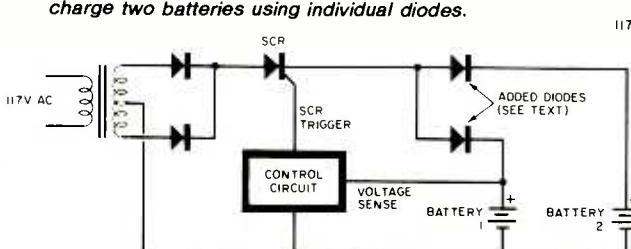

Fig. 2. Modification of the battery charger to charge two batteries using individual diodes.
**Construction.** Figure 2 shows how to modify the battery charger to charge two batteries at once. Break the connections between the SCR cathode, the output, and the voltage sensing lead. Connect a diode between the SCR cathode and each battery, with the diode cathode going to the battery. You can use a lug terminal strip to make connections. Select diodes that have a current rating at